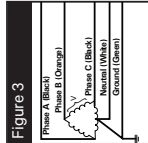

Figure 3
- 240H = 240/120V High Leg Delta (B High), (Fig 3)
- 480H = 480/240V High Leg Delta (B High), (Fig 3)